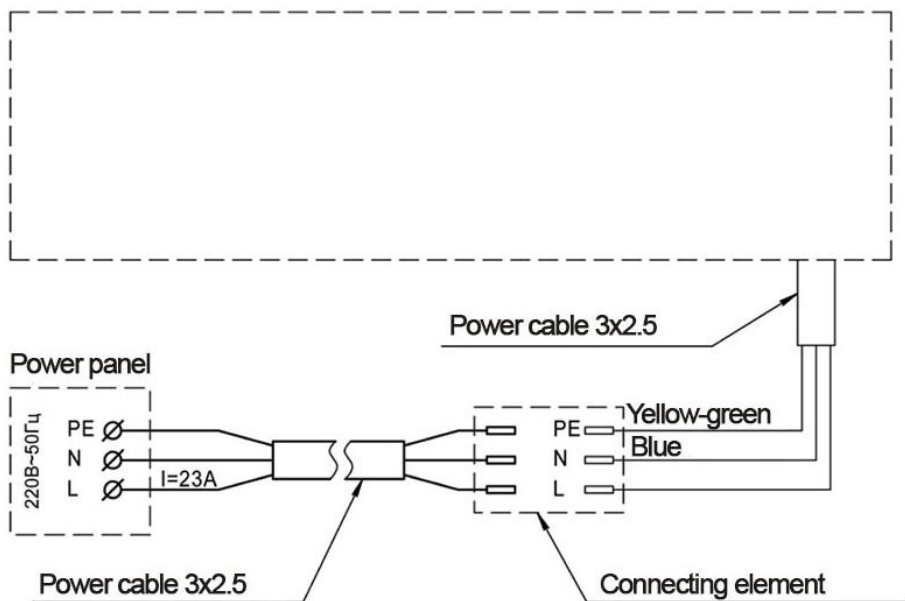

Fig. 3
2. Connection to the stationary power supply network is carried out in accordance with the scheme indicated in Fig. 3 and on the curtain body.